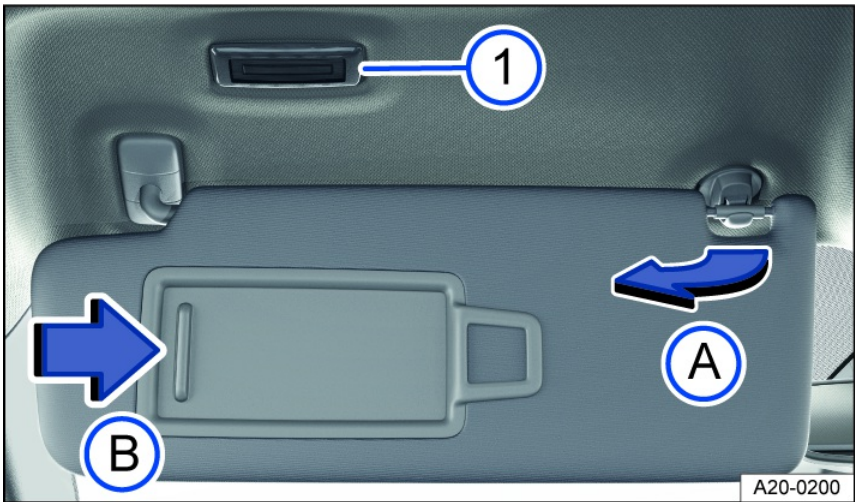

Fig. 99 In the front of the headliner: sun visor.
- Remove from the holder and tilt toward the door *fig. 99*.
When the sun visor is folded down, there is a vanity mirror located behind a cover. The lights *fig. 99* turn on when the cover *fig. 99* slides open.